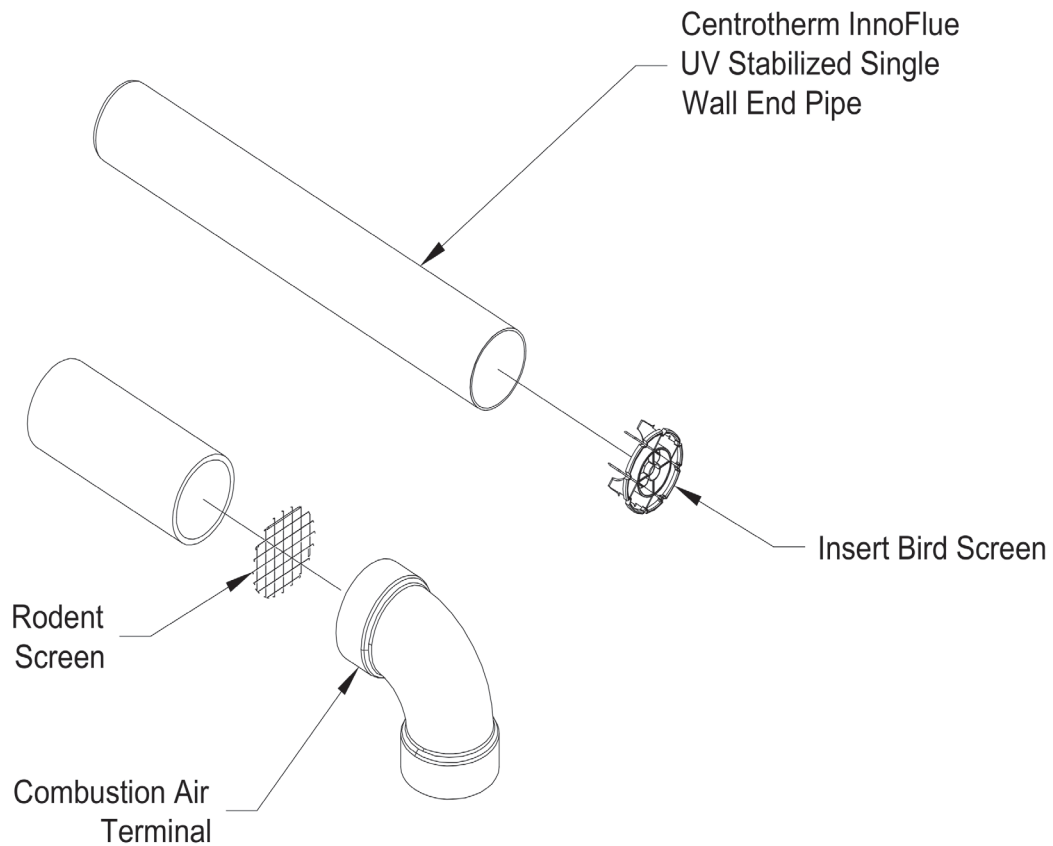

Figure 7.44: Installation of Centrotherm InnoFlue UV Stabilized Single Wall Horizontal Terminal
- See Figure 7.44 for proper orientation of twin pipe horizontal terminals. Outer edge of end pipe must be 10" or less from the wall surface. (Figure 7.5)